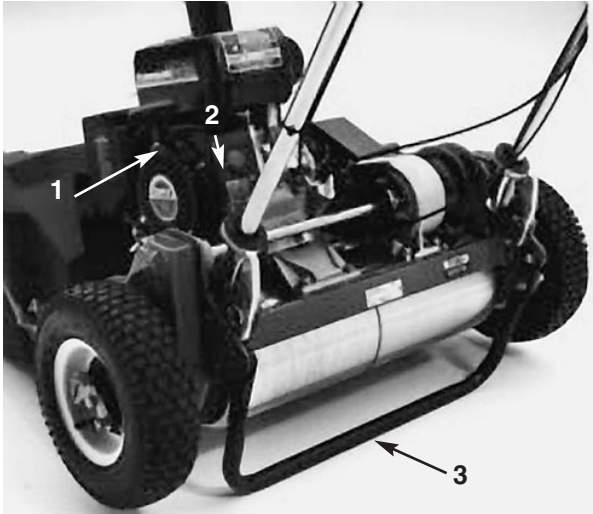

Fig. 16
**Recoil Starter** (Fig. 16)—Pull the recoil starter handle to start the engine.
**Kick Stand** (Fig. 16)—Located at the rear of the machine, the kickstand is used to raise the rear of the machine for installation or removal of transport wheels.
3. Move the ON/OFF switch (Fig. 16) to ON.